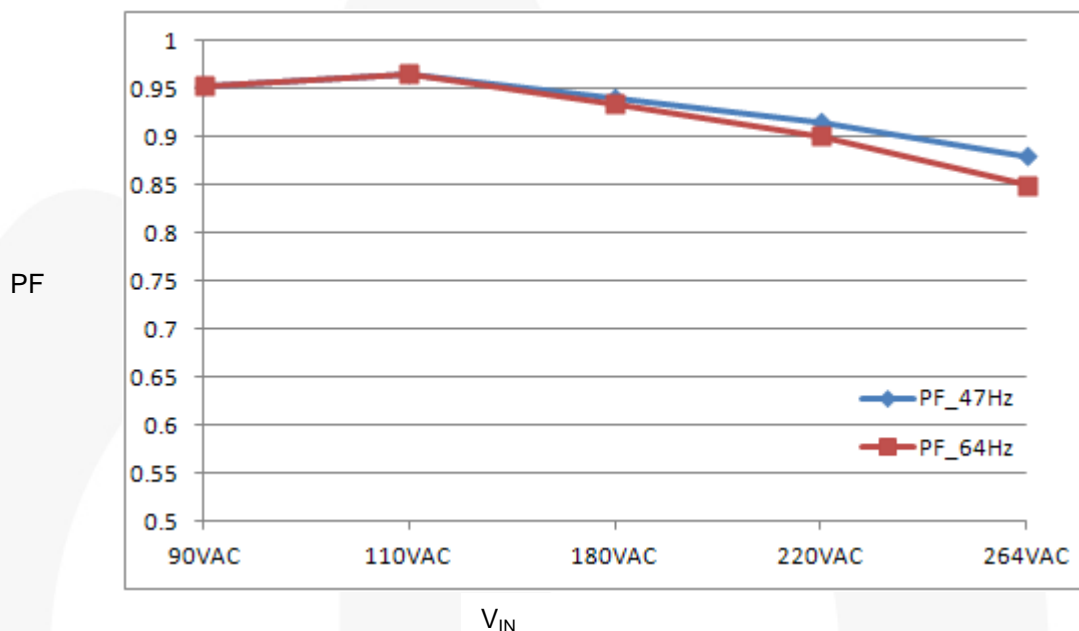

Figure 29. Power Factor
Figure 29 shows the system Power Factor (PF) performance for the entire input voltage range (90 V_{AC} to 264 V_{AC}) at different input frequency conditions (47 Hz, 64 Hz). The PF changes slightly according to the input frequency.